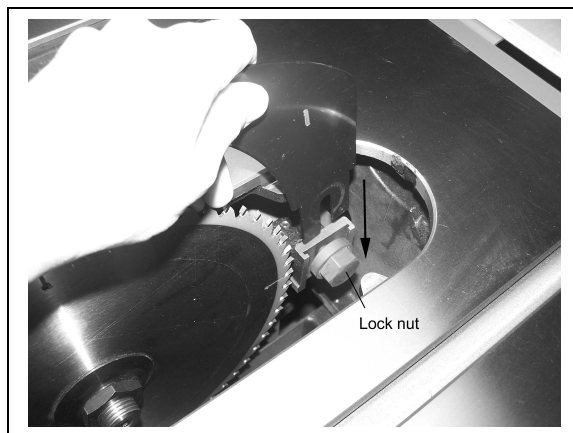

Figure 19
3. Loosen the lock nut then insert the fork of the riving knife between the nut head and backing plate as shown in Figure 19. Lock into place.